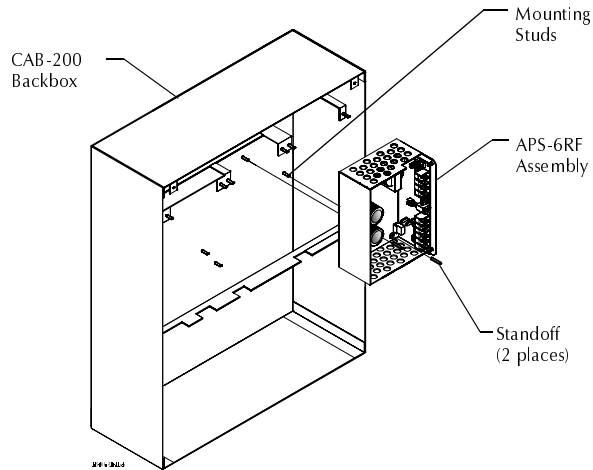

Figure 2 Mounting an APS-6RF to a CAB-200 Backbox
Mounting the APS-6RF to a CAB-200 Backbox	Figure 2 on page 5
Mount the APS-6RF to a CAB-200 as shown in Figure 2. To mount the APS-6RF, follow these instructions:
1. Place the APS-6RF onto the mounting studs in the CAB-200 (Figure 2).